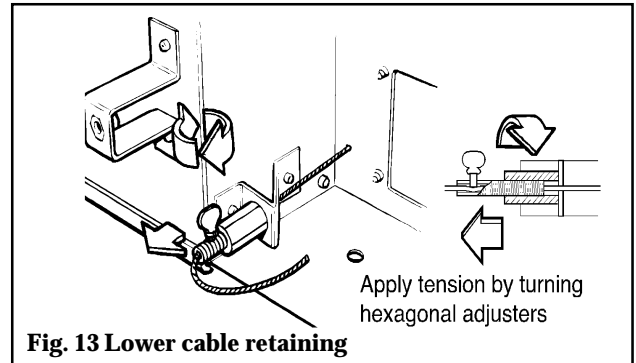

Fig. 13 Lower cable retaining
7.2.8 Pull each cable taut. Push the cable retainers hard up against the “V” brackets. Tighten the screws in the retainers so that they clamp the cables in position. Apply tension to the cables by turning the hexagonal adjusters by hand (see figure 13).